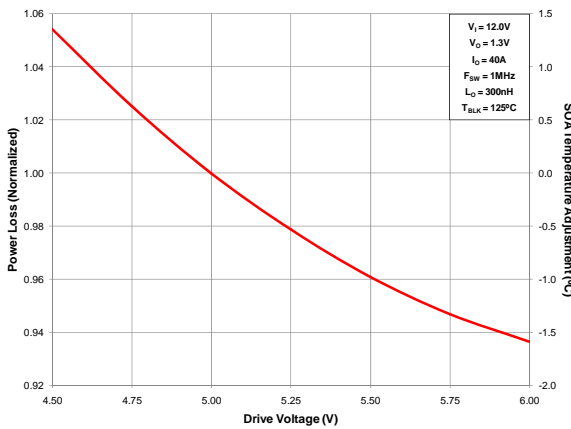

Figure 5 Normalized Power Loss versus Drive Voltage
- (Figure 5) Normalized power loss for drive voltage (V_{DD}) \approx 0.96
- (Figure 5) SOA temperature adjustment for drive voltage (V_{DD}) $\approx -0.8^\circ\text{C}$